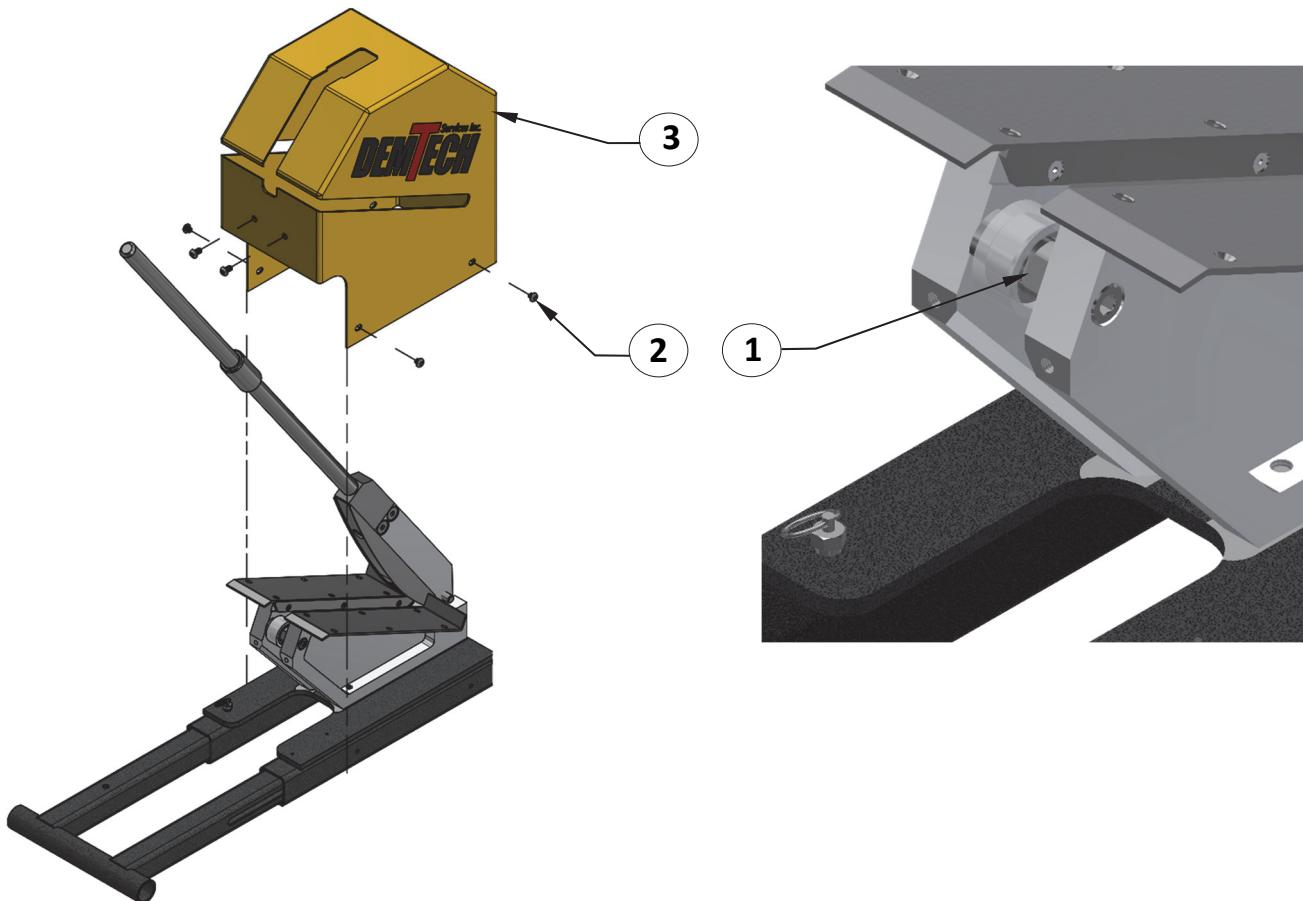

Figure 4.3
- a. To adjust the blade width, first remove the 6 screws that hold the cover to the main body using a 4mm Hex T-handle (*See Item 2, Figure 4.3*) and remove the cover (*Item 3, Figure 4.3*). Use a 5/8" open-ended wrench to tighten or loosen the blade standoff (*See Item 1, Figure 4.3*). This adjustment tightens the contact interface between the ram and blades. If a cut does not feel clean or feels like it is taking more effort than it should be then most likely a blade adjustment is necessary.